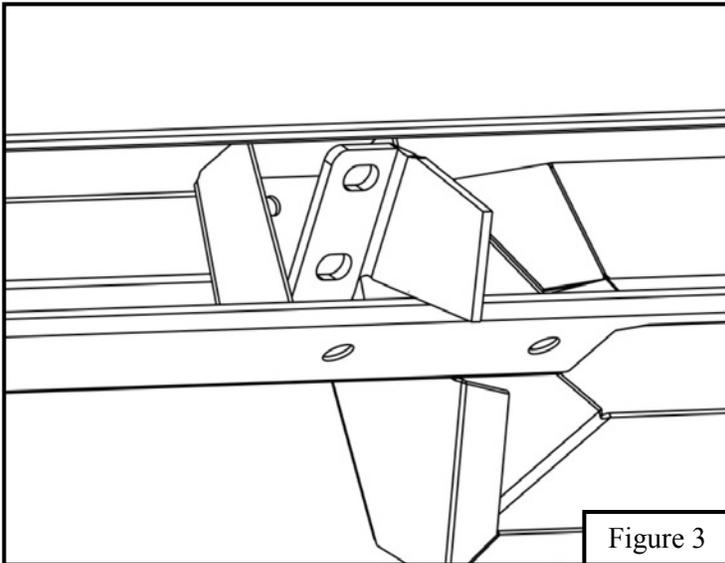

Figure 3
4. When installing bar to brackets be sure to tilt downward to fit brackets into mounting locations. **See Figure 3.**